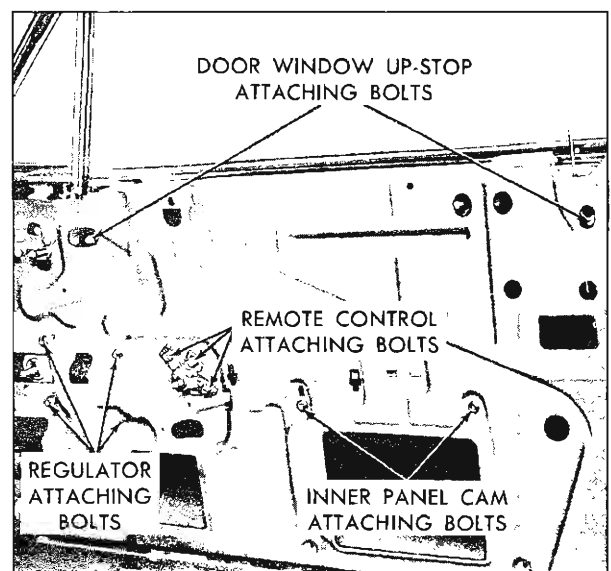

Fig. 3-20 Front Door Hardware—Hardtop Styles
2. Remove bolts securing door inner panel cam assembly, then disengage cam from window regulator balance arm and remove from door (Figure 3-20).
2. Remove remote control attaching screws and disengage remote control from connecting rod (Fig. 3-20).
2. Through holes in inner panel, remove screw securing window assembly front and rear stops to lower window sash channel. Then lower window slightly and remove stops (see Fig. 3-20).
5. To adjust limit of "up" travel of window assembly for proper contact with side roof rail weatherstrip, raise door window and through inner panel access holes loosen door window front and rear stop assembly attaching screws. Adjust stops up or down as required, then tighten attaching screws (Fig. 3-20).